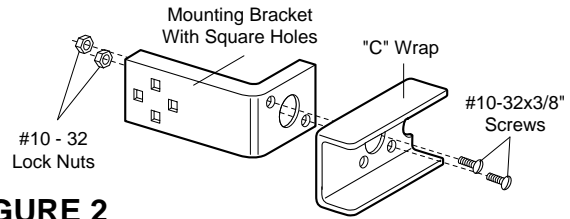

FIGURE 2
Figures 2, 3 and 4 show recommended assembly of bracket(s) and "C" wrap based on the wall installation of the sensors on each side of the garage door as shown on page 1, or on the garage door tracks themselves.
- Fasten the "C" wraps to the mounting brackets having square holes, using hardware shown in Fig. 2.